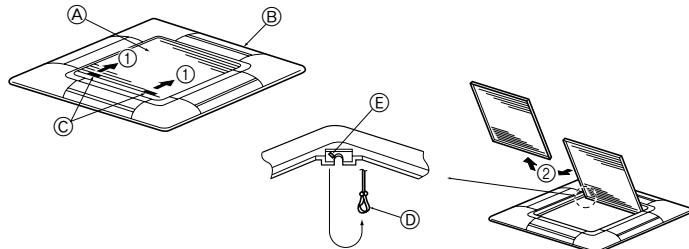
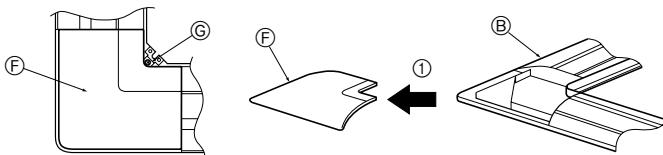

Fig. 8-3
Fig. 8-4
④ Main unit
⑤ Ceiling
⑥ Gauge (Accessory)
⑦ Ceiling opening dimensions
8.2.1. Removing the intake grille (Fig. 8-3)
- Slide the levers in the direction indicated by the arrow ① to open the intake grille.
- With the intake grille in the "open" position, remove the hinge of the intake grille from the grille as indicated by the arrow ②.
8.2.2. Removing the corner panel (Fig. 8-4)
- Remove the screw from the corner of the corner panel. Slide the corner panel as indicated by the arrow ① to remove the corner panel.